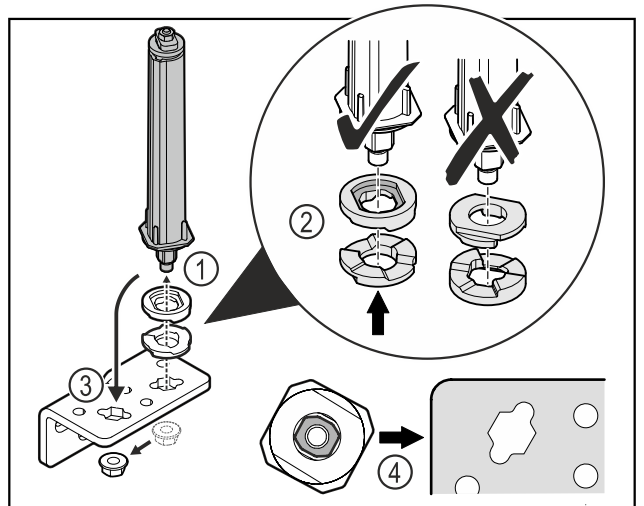

Fig. 51
- ▶ Loosen the nut and remove the door closing system Fig. 51 (1).
- ▶ Observe the correct alignment of the height adjustment washers Fig. 51 (2).
- ▶ Put the door closing system in the hinge fix in place with the nut Fig. 51 (3).
- ▶ Observe the correct alignment of the door closing system when doing so Fig. 51 (4).